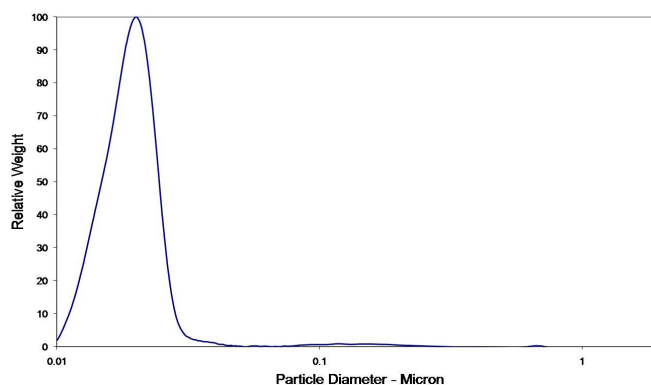

Fig.16
- Abrasives of all types (Diamond - Fig.16)